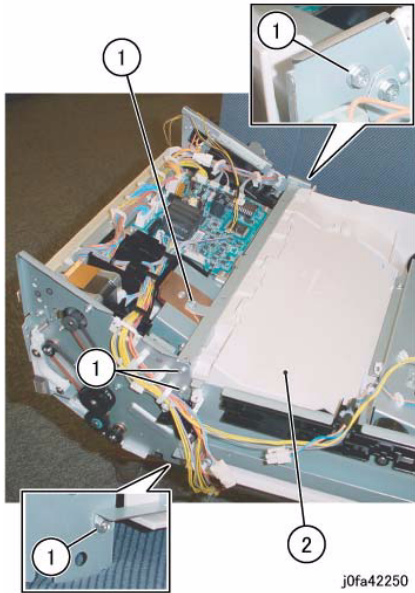

Figure 4 Removing the Stacker Tray Assembly
11. Remove the Stacker Tray Assembly (Figure 4):